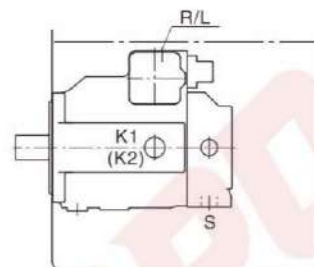

Figure 3
- a) When the minimum level in the tank is as same as or higher than the upper end of the drain port and port S can be open (see Figure 3)